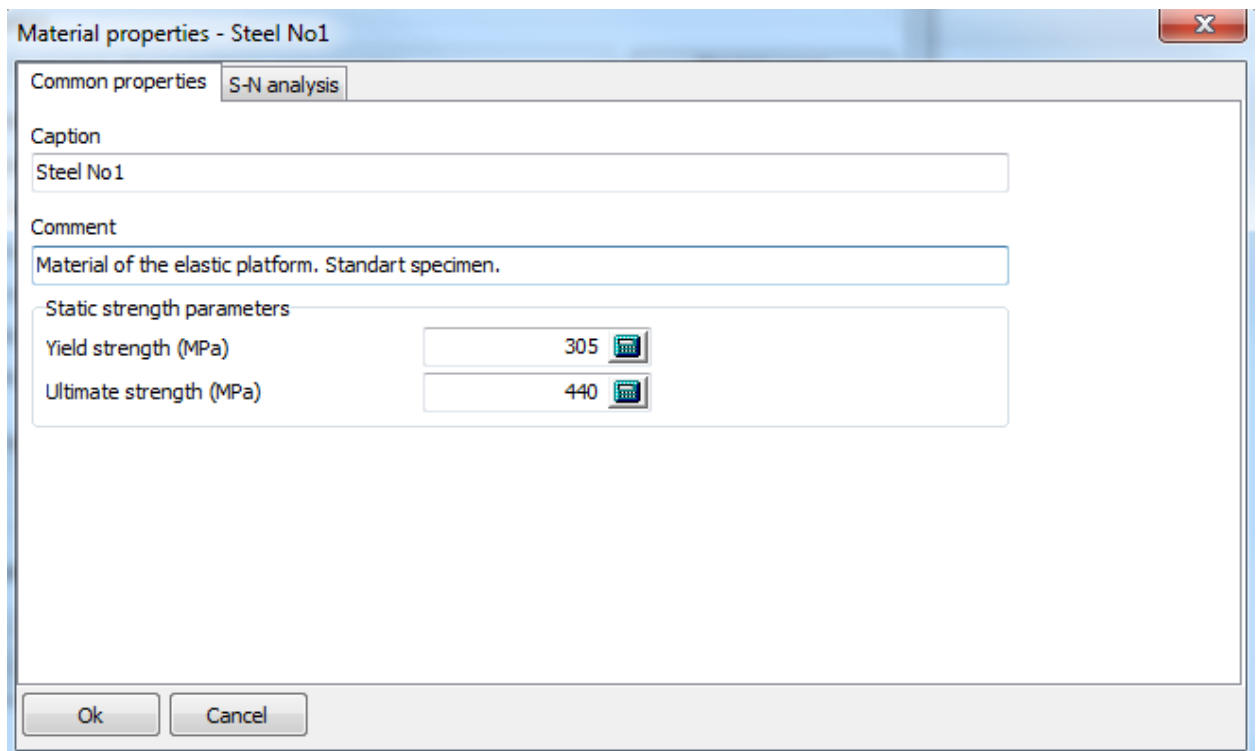

Figure 2.30. Material properties initialization: common properties
- Select the **Common properties** tab and set parameters as it is shown in the Figure 2.30.